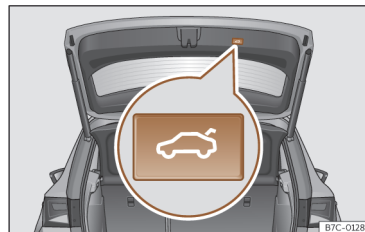

Fig. 55 Rear lid: button to close rear lid.
OR: press the button on the rear lid >>> Fig. 55.
- Briefly press the  button on the rear lid >>> **Fig. 55**, >>>  in *Introduction* on page 76.
Throughout the process of opening or closing the rear lid, acoustic warnings can be heard. *Exception:* when the rear lid is opened manually using the handle or the Easy Open function with the movement of the foot or closed using the button on the rear lid itself >>> **Fig. 55**.
- Press the  >>> Fig. 55 button on the rear lid for at least 3 seconds.